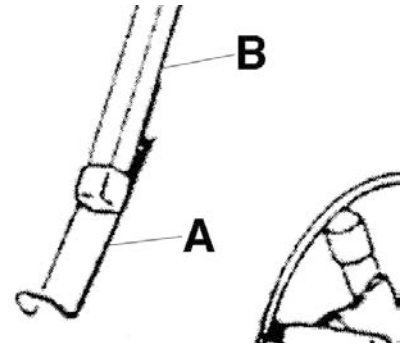

FIGURE 9
Open the support hook (A) Fig.9 on each crossarm (B) to support the drywall panel when it is being loaded, or when the cradle is tilted.
- 2) Swing open the panel support hooks on the two crossarms, see Fig.9. Make sure the cradle is turned so the support hooks are on the opposite side from the winch wheel.